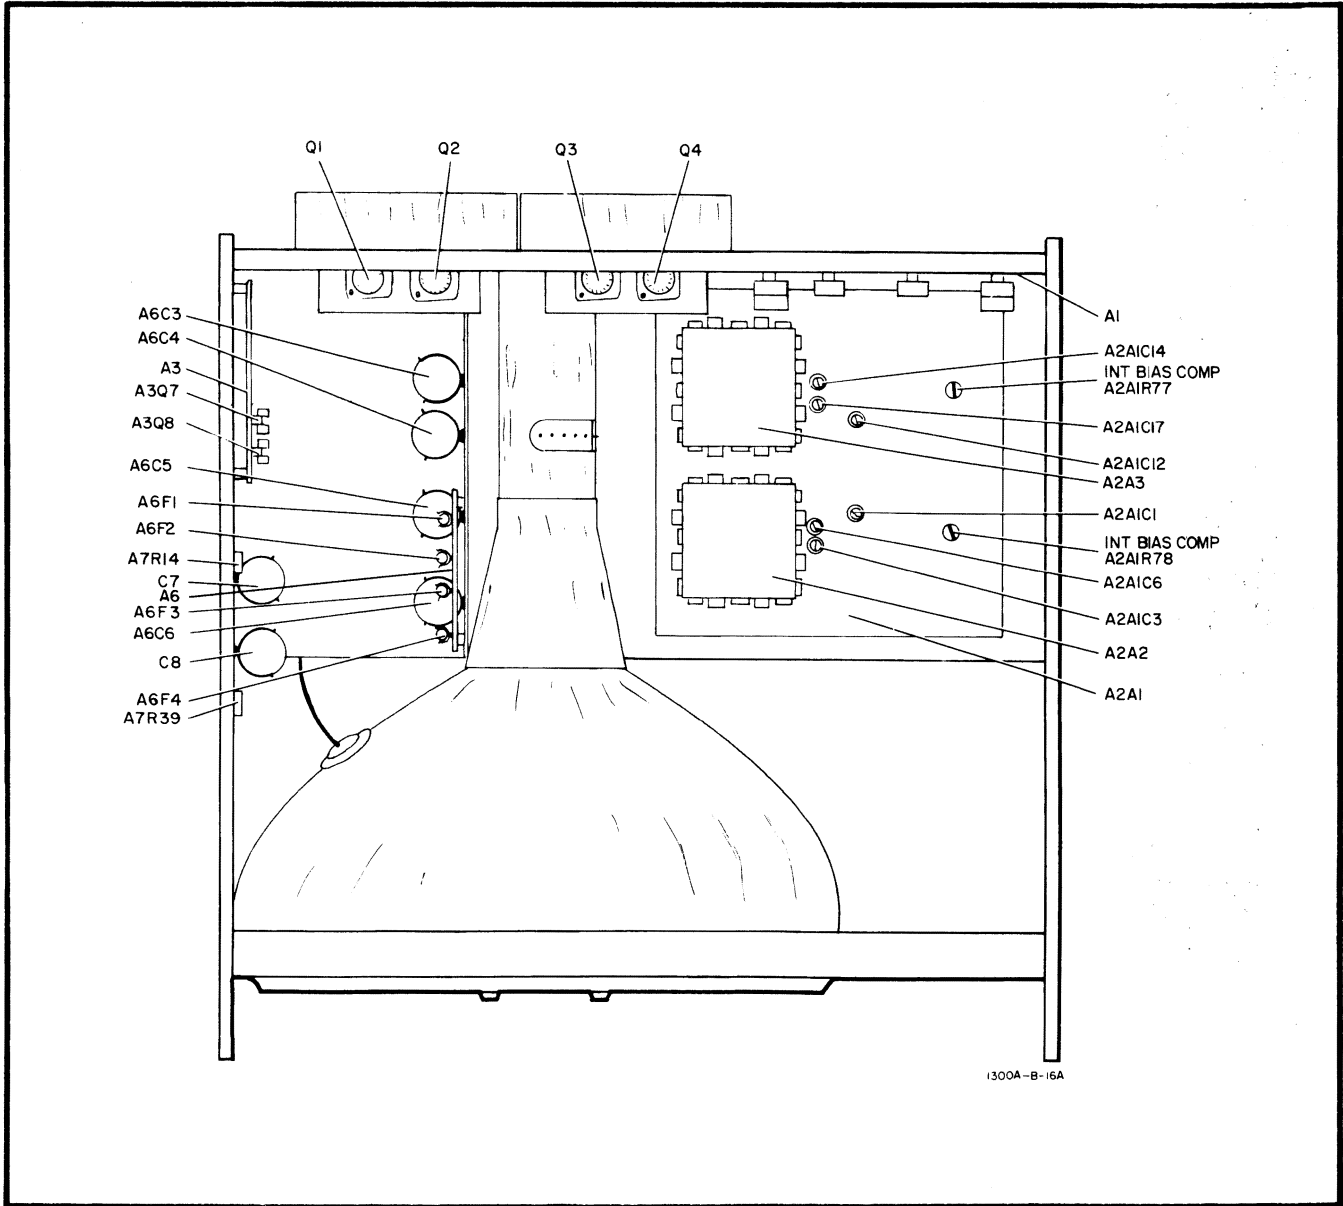

Figure 8-2. Assembly and Adjustment Location, Top View
8-3. The schematic diagrams are in this section of the manual. They are drawn to show the electronic function of the circuitry and the circuits shown on one schematic may include all or part of several different assemblies. Chassis parts and assemblies are identified in Figures 8-2 thru 8-4. Component identification diagrams, conditions for dc voltage and waveform measurements are placed adjacent to each schematic. Table 8-1 provides general schematic notes related to symbols and conventions used on the schematic.
d. Remove C5 from its mounting clip. (See Figure 8-2.)
8-24. Since the CRT in the Model 1300A is a large screen tube, it is awkward and heavy; and therefore difficult to remove. Also, the CRT is removed through the TOP of the instrument and not the front as in many models. Figure 8-2 gives the top view of the Model 1300A. Use this figure to locate the various parts called out in Paragraph 8-25.